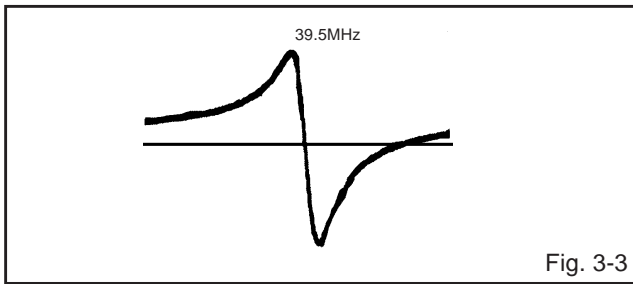

Fig. 3-3
3. Adjust **L6012** until the waveform marker (39.5MHz) becomes as shown in **Fig. 3-3**.